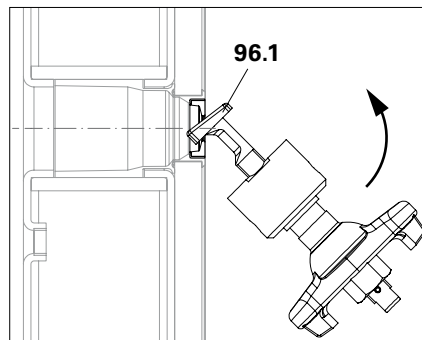

Fig. A14.03a
1. Screw in the extraction head (96.1) with the thick end at an angle into the sealing until the extraction head is positioned inside the sealing. (Fig. A14.03a + A14.03b)